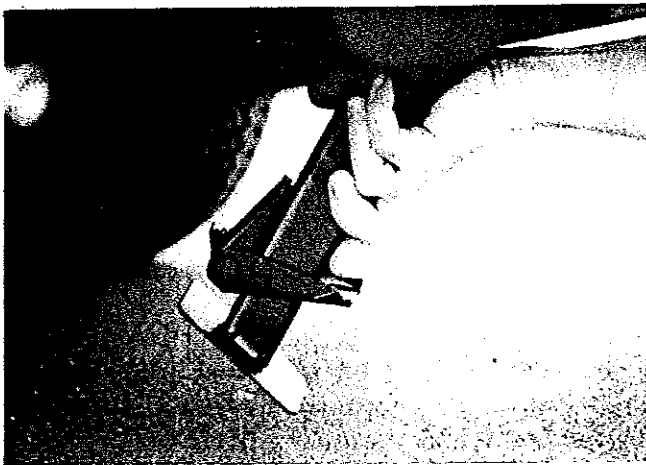

FIGURE 8
1. The Roanoke and Cedar models are equipped with three stabilizer jacks, one in each rear corner and one on the front left side of the A-Frame opposite the tongue jack. The Royale, Cedar XL, and Rio Grande are equipped with four stabilizer jacks, one in each rear corner of the trailer and one on either side of the A-frame near the front frame cross channel. To release the stabilizer jacks from the locked travel position, reach under the trailer, firmly grasp the jack and push it toward the center of the trailer (approximately 1/2"), and swing down to lock the jack in the lowered position. See Figure 8.